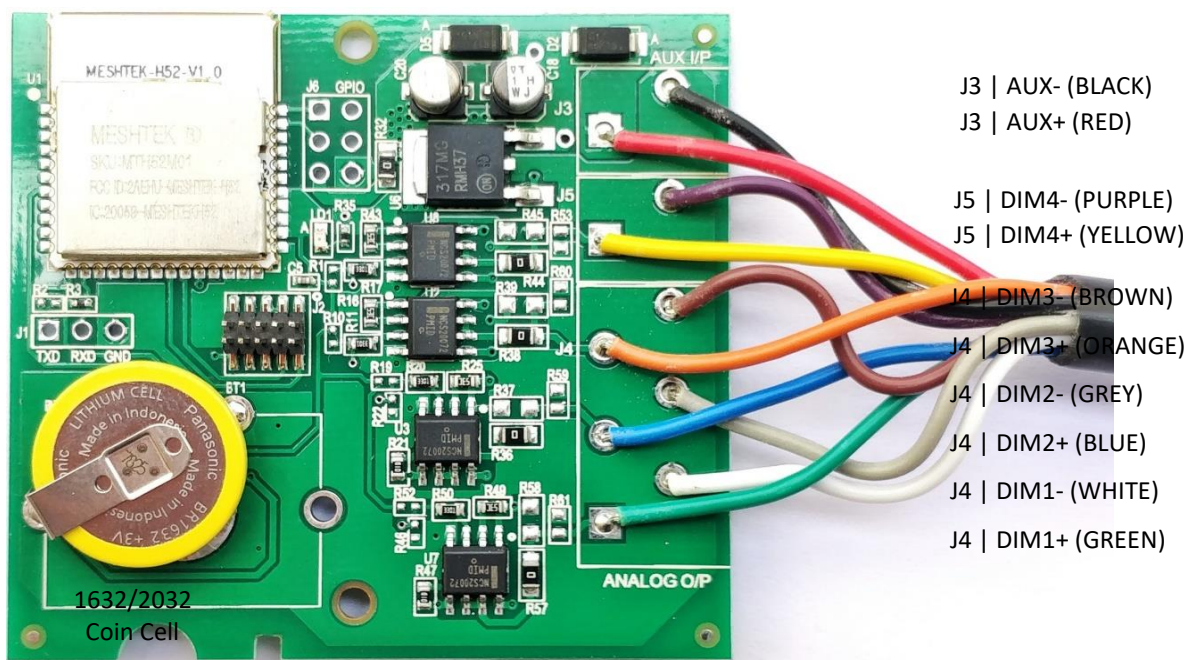

Figure 2-2 MeshTek® 4 Channel 0-10V SLC (56mm X 52mm)
- Representation of end user interface and connectors to MeshTek® 4 Channel 0-10V SLC is shown in Figure 2-2